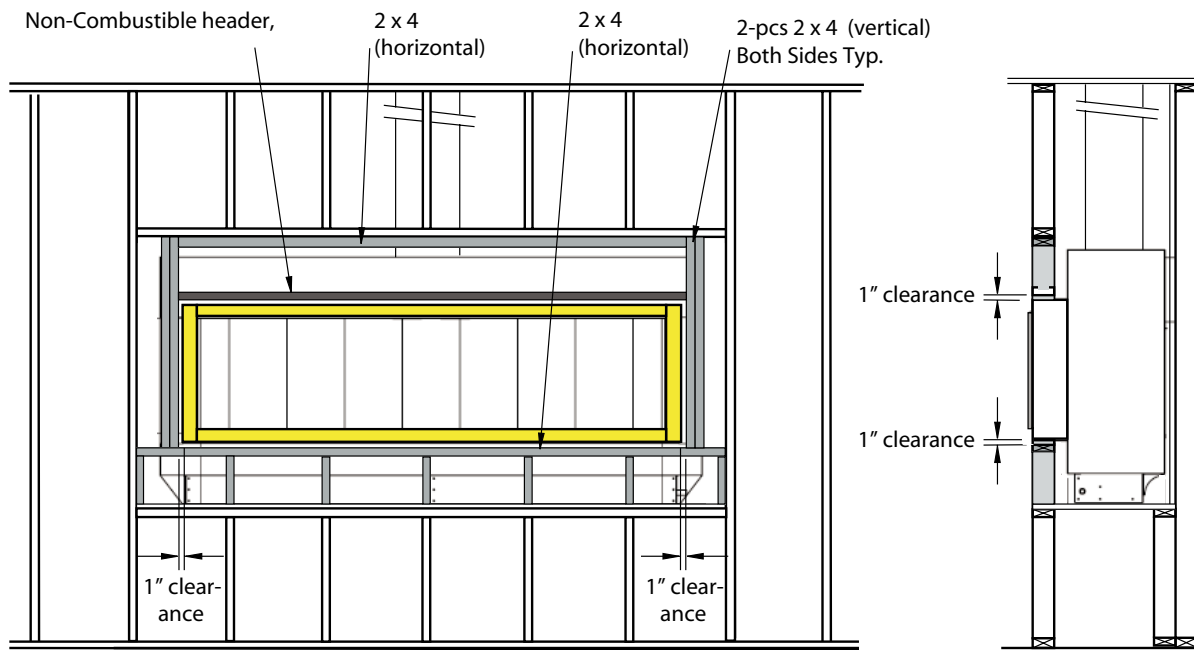
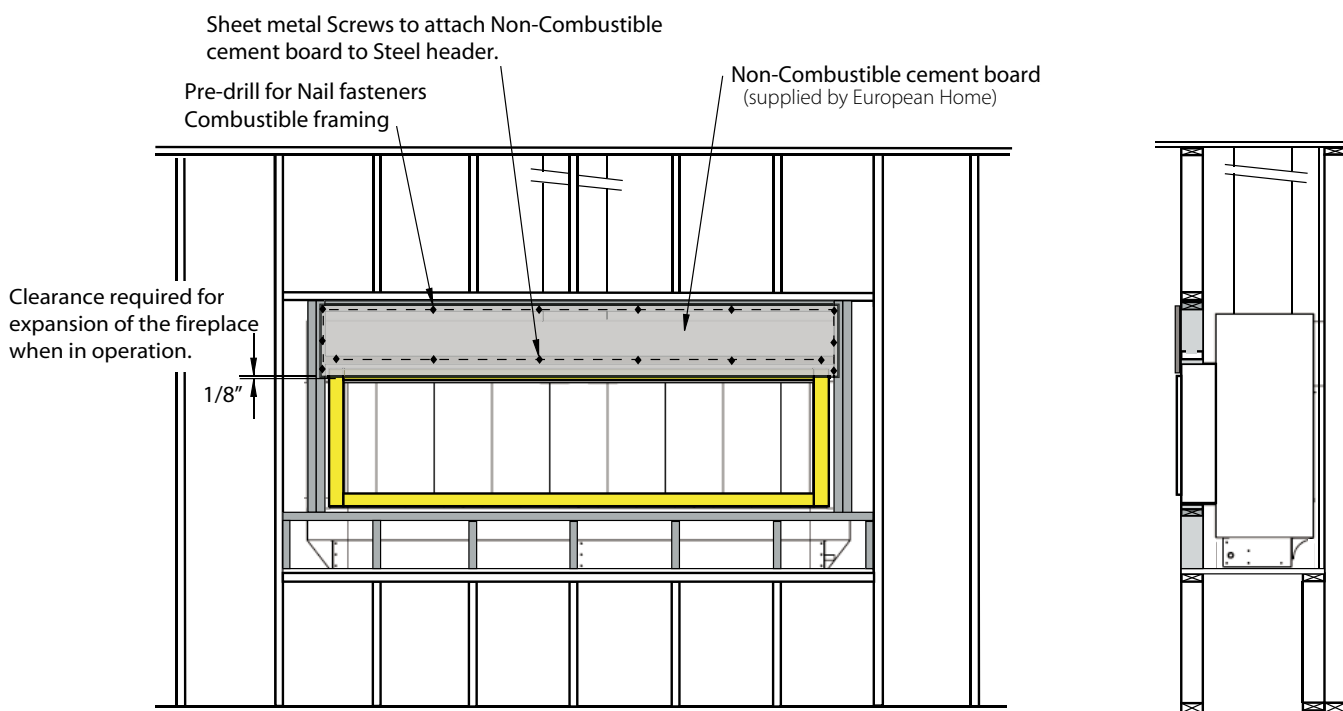

Figure 16b. Fireplace installation, ensure the 1" clearance to combustibles.
Figure 16c. Non-combustible board over the fireplace.
combustibles), **Figure 16b**. Next, cut four vertical 2 x 4's to install between the upper and lower horizontal 2 x 4's, (2 pcs. either side). (Ensure these are placed the required 1" clearance to combustibles). Cut the top 2 x 4 (horizontal) to fit between the vertical 2 x 4's (either side of fireplace) as shown. Last, install the supplied steel header 1" above the fireplace throat.
Step 4. As shown in **Figure 16c**; cut a sheet of non-combustible concrete board to overlap the new horizontal and vertical 2 x 4's, See **Figure 16b**, above. Place the non-combustible wall board above the fireplace throat, allowing $\frac{1}{8}$ " clearance from the rim above the fireplace opening. Pre-drill the board with $\frac{1}{8}$ " drill and secure to framing with nails, use flat head sheet metal screws to fasten the board to the metal header.